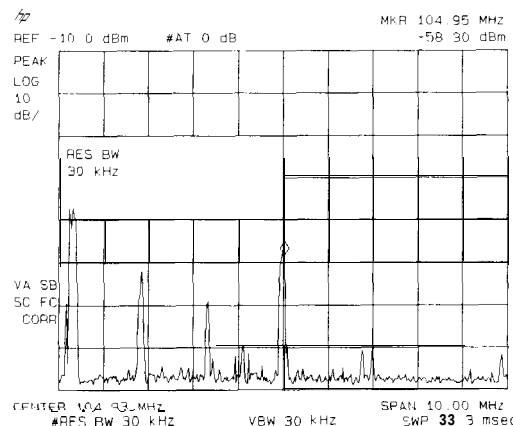

Figure 3-18. Decreasing Resolution Bandwidth
2. Press (BW) then ($\downarrow$). The low-level signal appears more clearly because the noise level is reduced. See Figure 3-18.